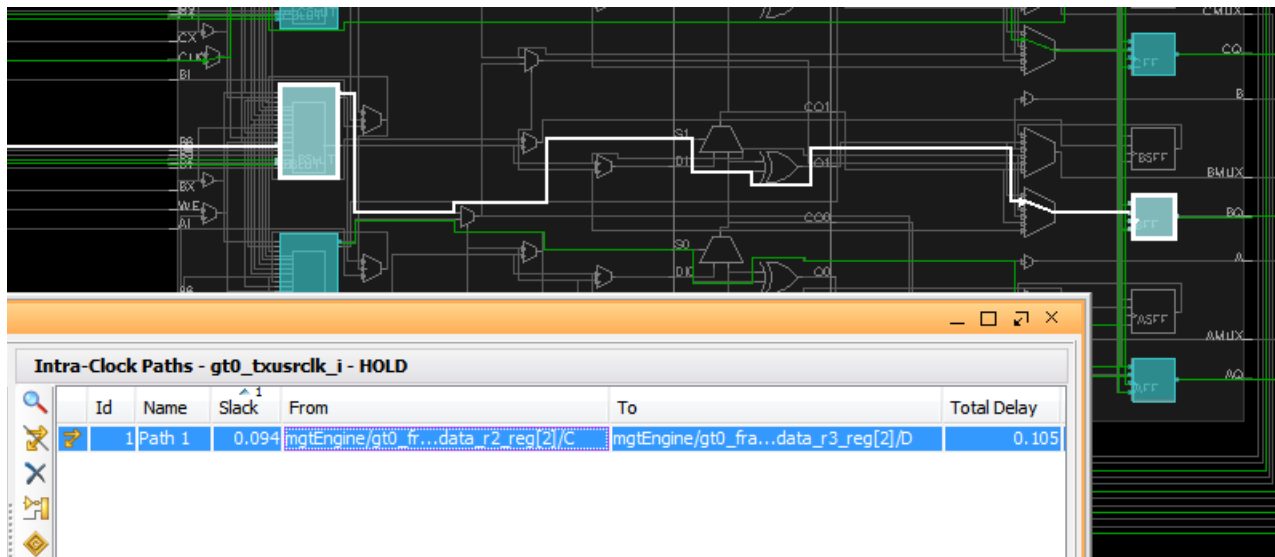

Figure 3-10: **Cross-Probing Between Timing Report and Device Window**
Figure 3-10 shows an example of cross probing between the Timing Summary report and the Device window. The following steps take place in this Non-Project Mode example:
- When the timing path is selected in the Timing Summary report, cross probing on the path occurs automatically in the Device window, as shown in Figure 3-10.